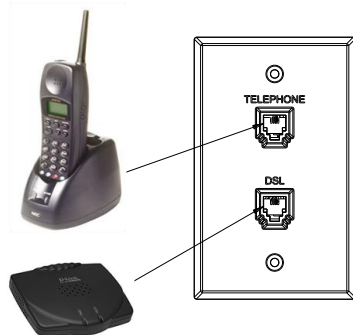

Figure 4
8. Connect the existing phone and DSL modem into their respective RJ-11 receptacles on the front face plate (See Figure 4).